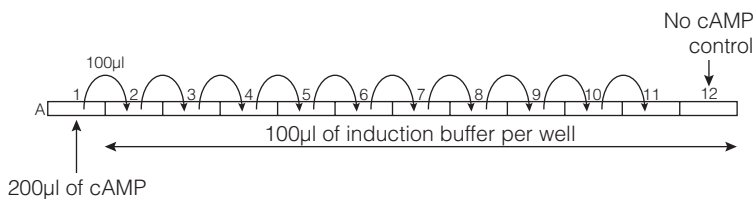

Figure 5. Dilution scheme for preparation of cAMP standards.
3. Perform a serial twofold dilution by transferring 100 μl from well A1 to well A2 in column 2 with a pipette, pipetting to mix. Transfer 100 μl to well A3. Repeat for wells A4 through A11. See Figure 5. Discard the extra 100 μl from well A11. Do not add cAMP solution to the no-cAMP control reactions in well A12.